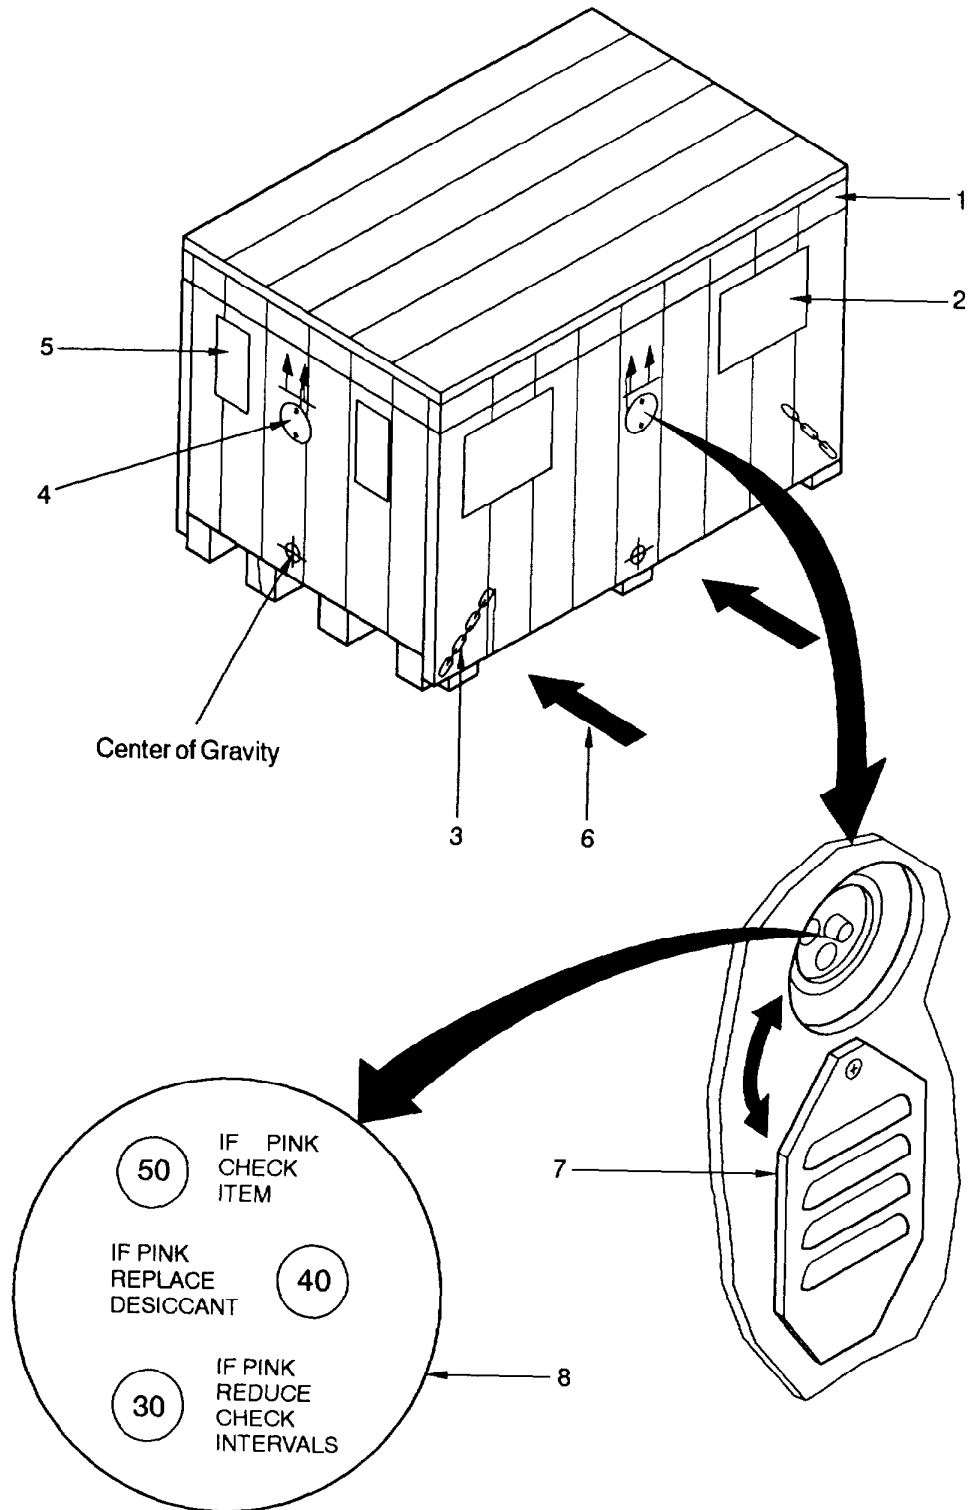

Figure 4-1 Original Packaging in Container.
The Generator Set 150 kW is packed in a wooden container (figure 4-1). The container is covered at the top by rainwater protection film (1). The packing list is located below the plate (2). The container is labeled with the necessary logistical identifiers (5).
- a. Remove cover and four sides of the container (figure 4-1).